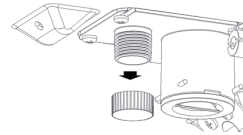

Figure 12.2
1. Locate the condensate drain on the bottom of the water heater and remove the drain cap. (See Figure 12.2)